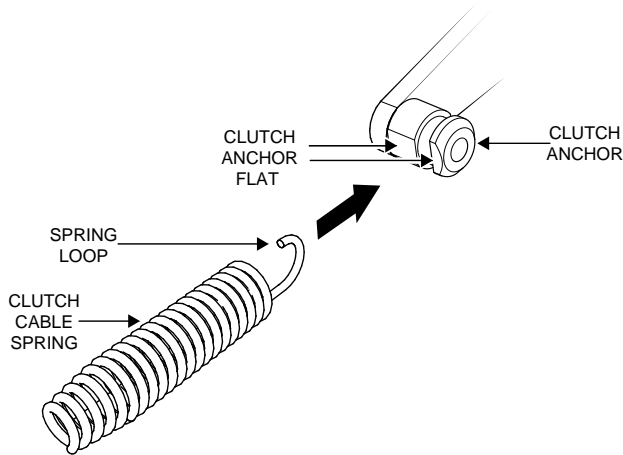

Figure 20. Spring Loop Attachment.
9. Connect the clutch cable to the clutch anchor by placing the spring loop over the clutch anchor flats as shown in Figure 20. Use needle nose pliers to slide the spring loop fully into the groove.